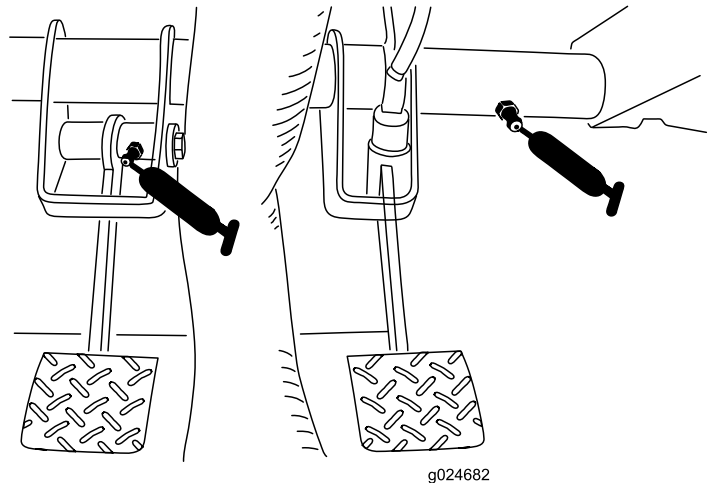

Figure 41
- Clutch (1) and brake (1) (Figure 41)